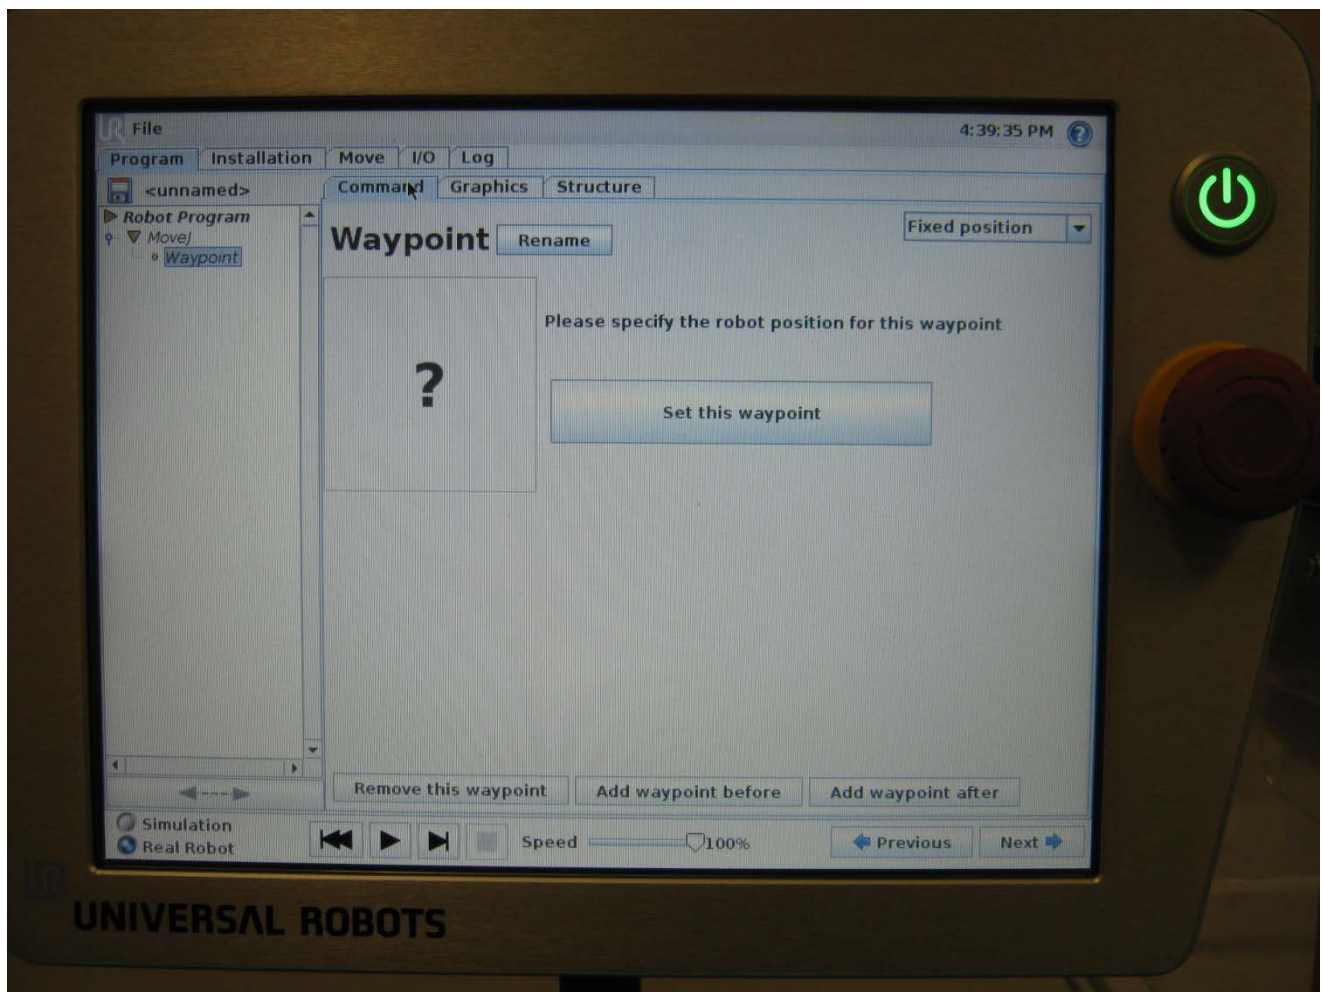

Figure 12 The Command tab for a waypoint
5. Most of our commands will be associated with a Move command, so we will include a "Move". Press the "Move" button to include the move command. You will notice that "MoveJ" and "Waypoint" has appeared in the list of instructions in the left hand panel (Figure 12). You will also notice that the arrows and circles before the MoveJ and Waypoint instructions are yellow. The yellow colour indicates that the instructions are incomplete and need more information.
6. In the list of instructions in the left hand side panel press “Waypoint” to select it, then click on the Command tab. The following screen will appear (Figure 12).
11. We can now add another waypoint, in this case the pick-up position of the robot. Press the “Add waypoint after” button at the bottom right hand corner of the screen (see Figure 12). Follow steps 7 to 10 to set the next position.